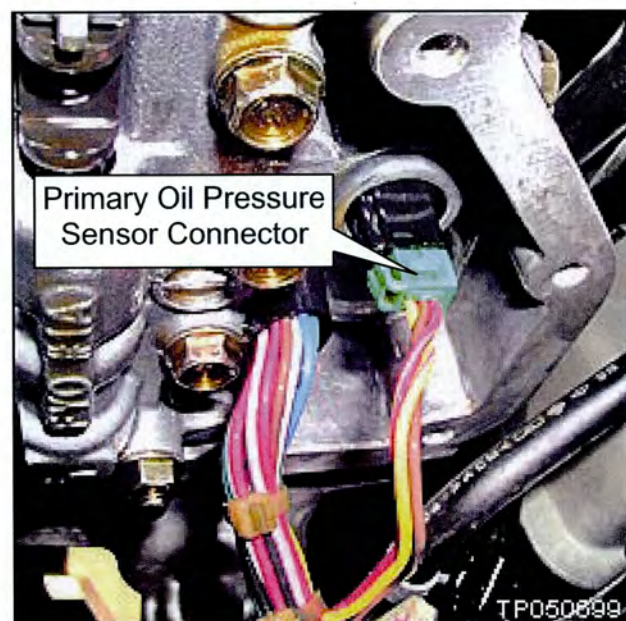

Figure 6
12. Disconnect the harness from the Primary oil pressure sensor assembly (see Figure 6).
22. Reconnect the harness to the primary oil pressure sensor (see Page 6, Step 12 and Figure 6).